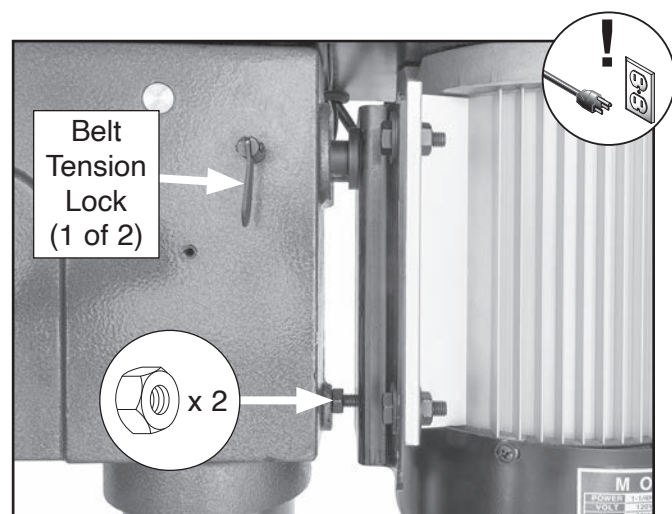

Figure 32. Location of belt tension locks and hex nut.
4. Loosen (2) belt tension locks, and loosen (2) hex nuts shown in **Figure 32**.
8. Tighten belt tension locks, tighten (2) hex nuts shown in **Figure 32**, then close belt cover.